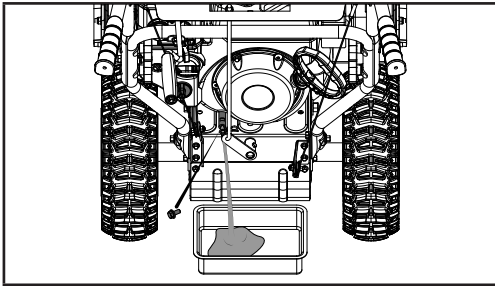

Figure 18
3. Remove the drain bolt and drain the oil into the container by slightly tipping the engine toward the oil cap/dipstick (Fig. 18).